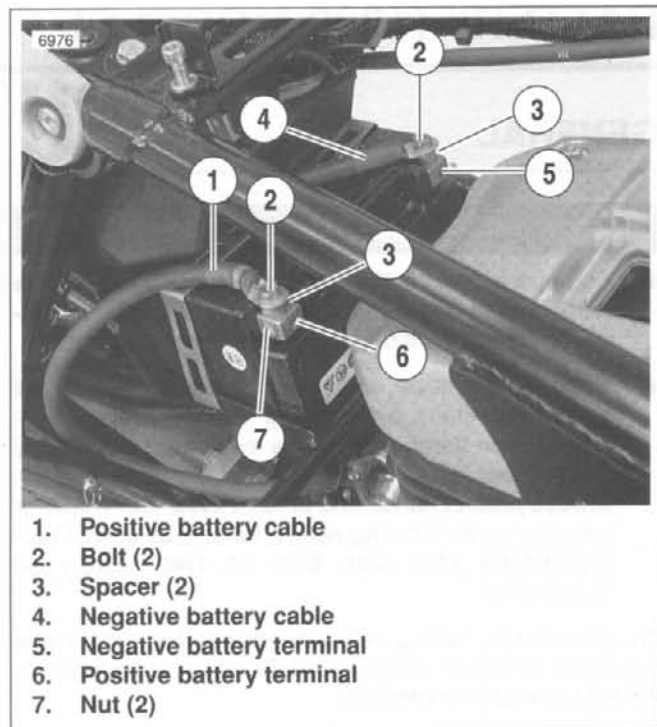
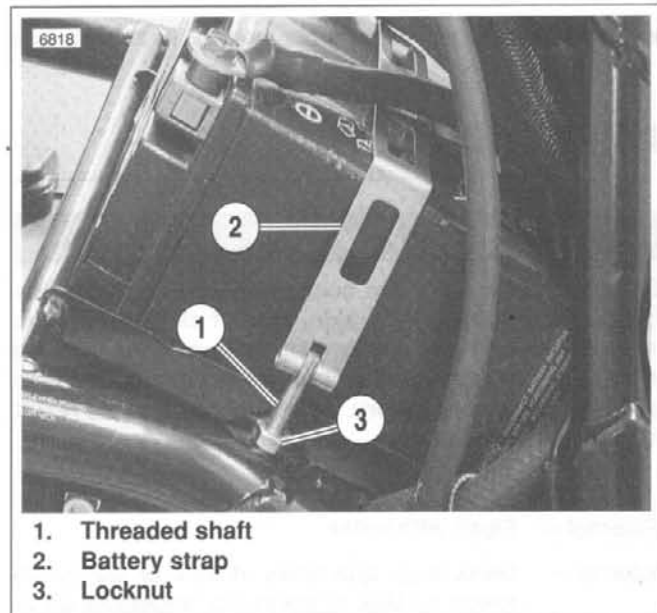
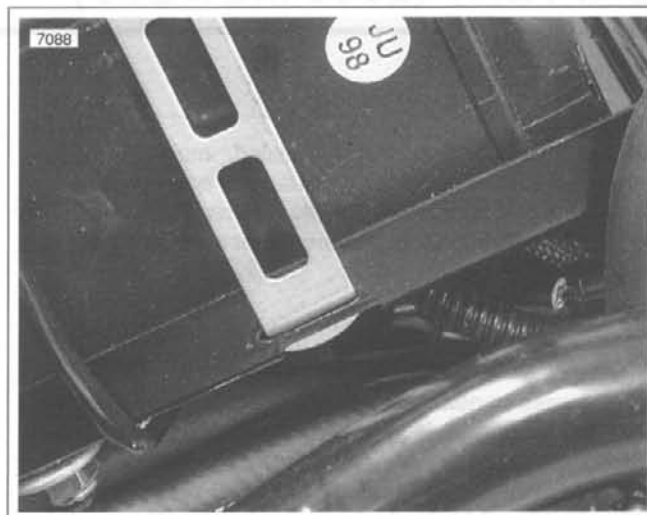

Figure 1-5. Battery Cables
Figure 1-6. Battery Strap, Left Side
Figure 1-8. Battery Strap, Right Side
1. See Figure 1-5. Disconnect battery cables, negative terminal (4) first.
- a. Remove bolt (2) (metric) holding negative cable (4) to negative terminal (5). Do not misplace spacer (3) or terminal nut (7).
- b. Remove bolt (2) (metric) holding positive cable (1) to positive terminal (6). Do not misplace spacer (3) or terminal nut (7).
2. See Figure 1-6. Remove battery strap locknut (3) (metric). Unhook battery strap (2) from frame near negative terminal.
3. See Figure 1-5. Connect battery cables.
- a. Connect positive cable (1) to positive (+) battery terminal (6) using bolt (2) (metric), spacer (3) and nut (7).
- b. Connect negative cable (4) to negative (-) battery terminal (5) using bolt (2) (metric), spacer (3) and nut (7).
- a. See Figure 1-8. Insert tab on right side of battery tray. Place battery strap around top side of battery.
- b. See Figure 1-6. Hook edge of strap into frame tab.
- c. Insert threaded shaft (1) on strap through frame tab.